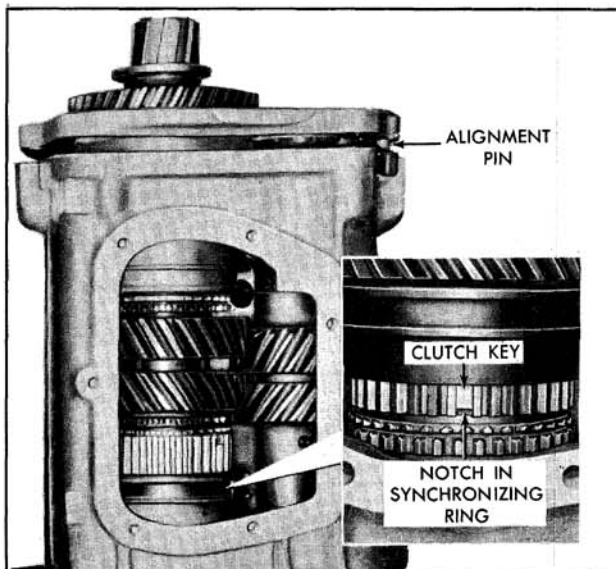

Fig. 7-76 Installing Mainshaft Assembly
12. Lower the mainshaft assembly into the case, making certain the notches on the fourth-speed synchronizing ring correspond to the keys in the clutch assembly. (Fig. 7-76)